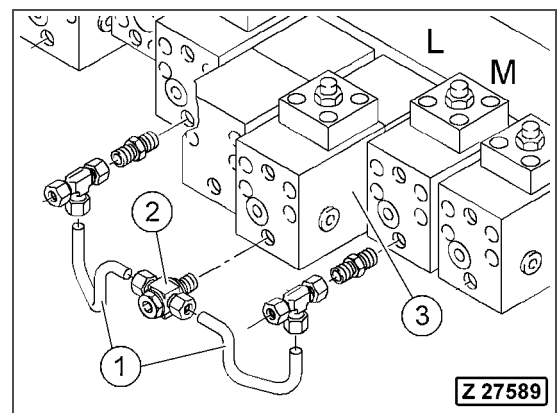

Fig. 3-152
- Disconnect the hydraulic piping (Fig. 3-152, Pos. 1) with the union (Fig. 3-152, Pos. 2) from the throttle check valve (Fig. 3-152, Pos. 3).